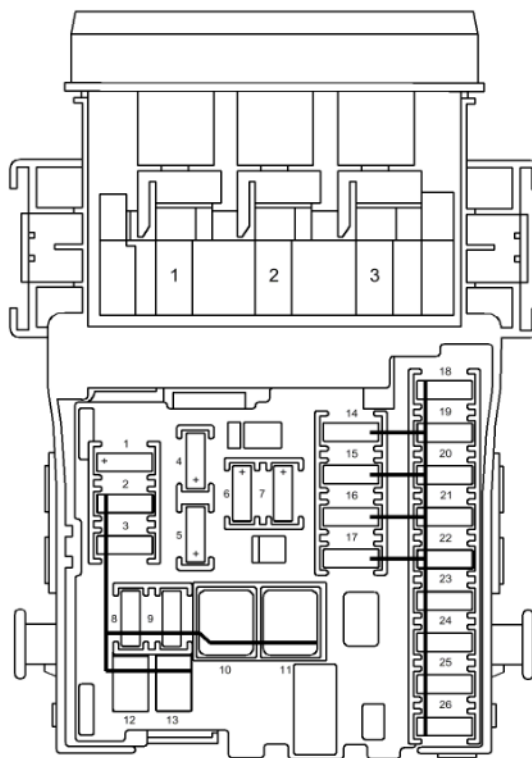

Fig. 5: Instrument Panel Fuses (Cruze)
- **2011-16 Cruze** : Fuse #21 (F21DA) Under Dash (**Fig. 5**)